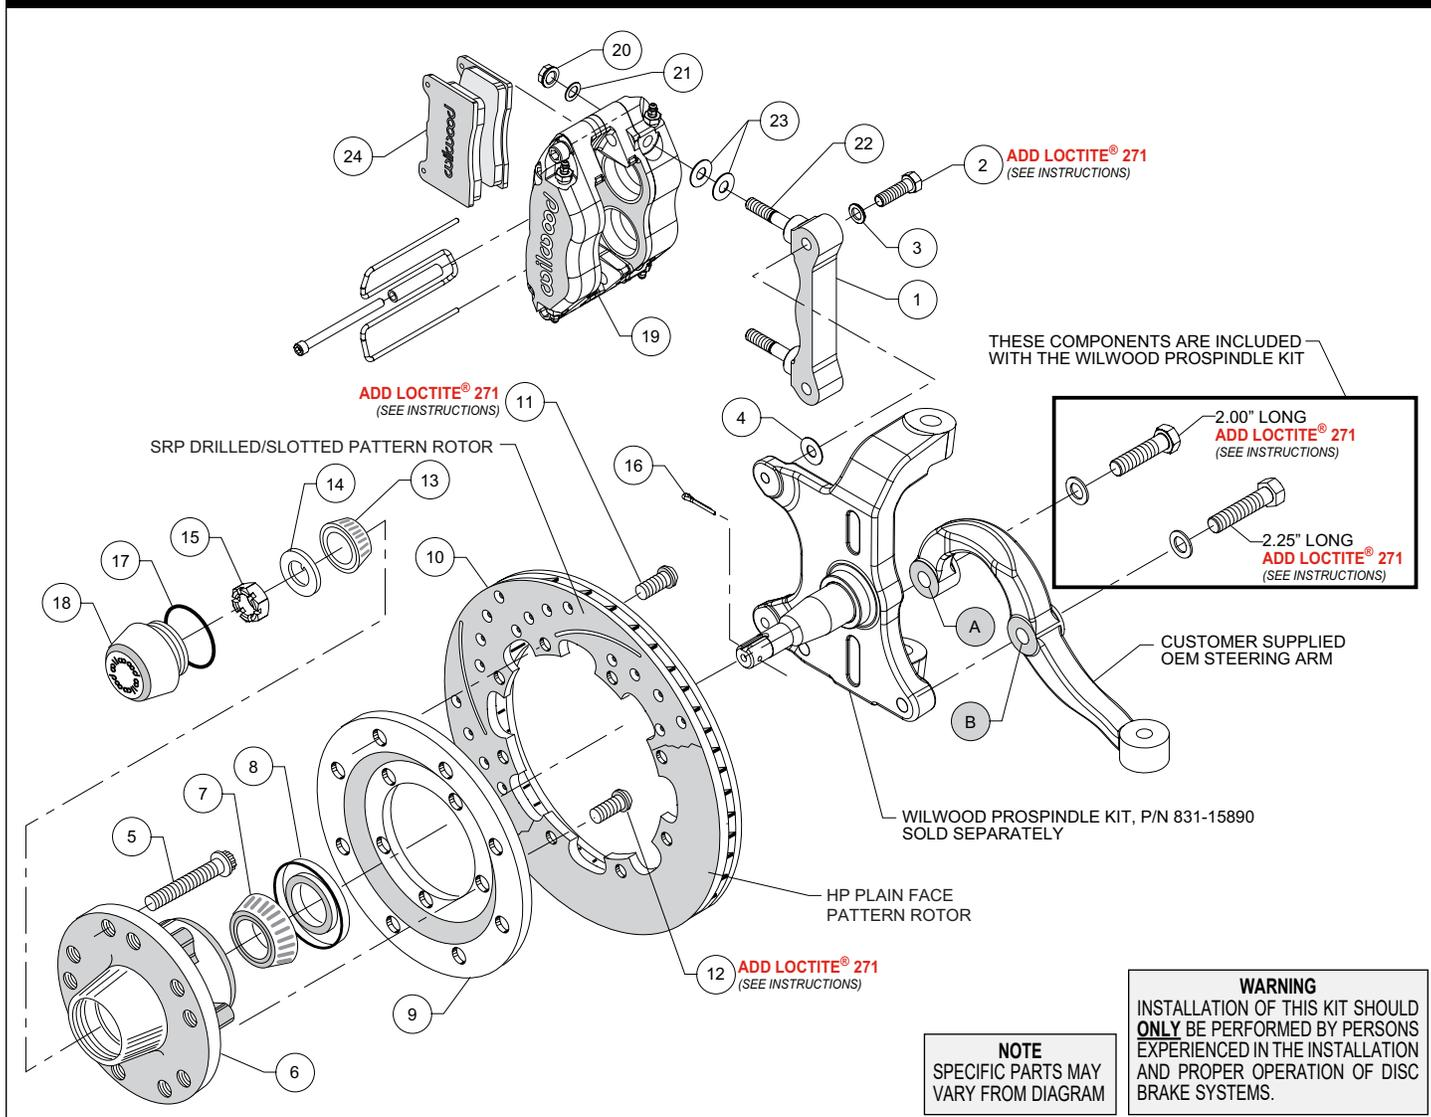

Figure 1. Typical Installation Configuration
Assembly Instructions (numbers in parenthesis refer to the parts list and Figure 1 on the preceding pages):
•**NOTE:** Wilwood's AFX ProSpindle kit includes bolts and washers to mount the steering arm (customer supplied) to the spindle. The various bolts are identified by length in the following instructions and in Figure 1.
•Orient the steering arm, and identify the hole marked "A" as shown in Figure 1. Attach arm to spindle using 2.00" long bolt and washer (from ProSpindle kit), Figure 1. Finish attaching the steering arm through the hole marked "B", using 2.25" long bolt and washer (from ProSpindle kit), Figure 1. Temporarily tighten the mounting bolts. **NOTE:** The steering arm must fit squarely against the mounting points on the spindle. Inspect for interference from casting irregularities, machining ridges, burrs, etc. Remove bolts one at a time, apply red *Loctite*® 271 to threads, and torque to 77 ft-lb.
•The caliper mount bracket (1) should initially be installed with clean, dry threads on the mounting bolts. Orient the bracket as shown in Figure 1 and Photo 1, and install using bolts (2) and washers (3). Initially place one .035 thick shim (4) on each bolt between the bracket and spindle, Figure 1. Temporarily tighten the mounting bolts. **NOTE:** The bracket must fit squarely against the mounting points on the spindle. Inspect for interference from casting irregularities, machining ridges, burrs, etc. Later, after the caliper alignment has been checked, the mount bolts will be secured using red *Loctite*® 271.
•Orient the rotor (10) and the rotor adapter (9) as shown in Figure 1 and Photo 4. Attach the rotor to the adapter using bolts (11). Using an alternating sequence, apply red *Loctite*® 271 to the threads, and torque to 25 ft-lb.
- Mount the adapter/rotor assembly (9 and 10) to the hub (6) using bolts (12), as shown in Figure 1 and Photo 5. Using an alternating sequence, apply red *Loctite*® 271 to the threads, and torque to 45 ft-lb.
- Initially place two .035" thick shims (23) on each stud (22) between the caliper and the bracket, as shown in Figure 1 and Photo 8. Mount the caliper (19) onto the bracket (1) using lock nuts (20) and washers (21), Figure 1. Temporarily tighten the lock nuts and view the rotor through the top opening of the caliper. The rotor should be centered in the caliper, Photo 9. If not, adjust by adding or subtracting shims (4) between the bracket and the spindle. Always use the same amount of shims on each of the two mounting bolts. Once the caliper alignment is correct, remove the bracket mounting bolts (2) one at a time, apply red *Loctite*® 271 to the threads, and torque to 40 ft-lbs.
- Insert the brake pads (24) into the caliper with the friction material facing the rotor (10), as shown in Figure 1 and Photo 10. Check that the top of the brake pad is flush with the outside diameter of the rotor, Photo 11. If not, adjust by adding or subtracting shims (23) between the caliper and the bracket. After the caliper pad height is set, torque the caliper lock nuts (20) to 30 ft-lb. Secure the pads in place using the pad clip retainer as well as the center bridge pad retainer tube, bolt, and locknut, Photo 12. The locknut should be snug without play in the bolt or tube. Be cautious not to over tighten.